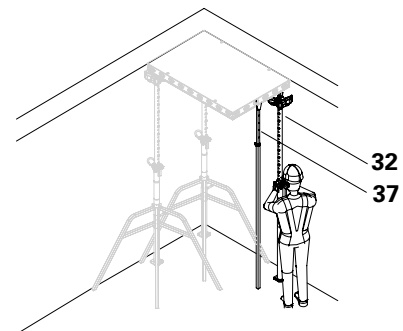
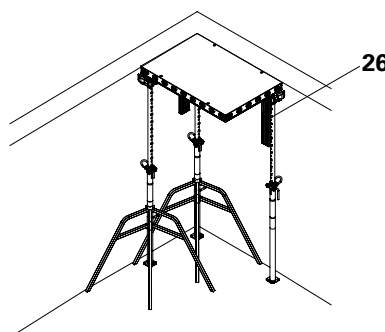

Fig. D2.04
Fig. D2.05
5. Place the third prop with DFH prophead (32) at the end of the panel in an inclined position from the inside and align outwards. Spacing 1.20 m (Fig. D2.04)
6. Remove the shuttering aid (37).
7. Secure the DP panel (10) on both walls with the DUO 82 wall holder (26). (Fig. D2.05)